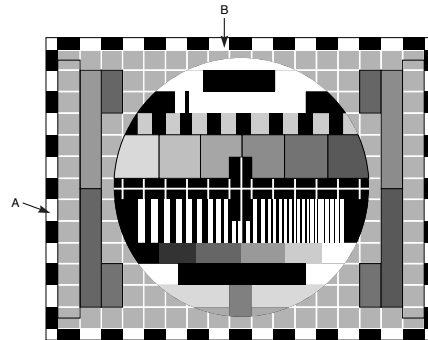

Fig1) H/V Position Adjjuement Screen
2. Remove the two retaining screws on the lamp cover with a screwdriver of "+" type and then lift off the lamp cover.(refer to fig.1)
< Fig. 1 >
- 4) Change the data with volume key on the remote control for adjustment so that the left/right of screen (A-fig1) to be symmetry and then adjust the outermost line of 5 channel (fixed size by circuit/optics) to be placed on the outermost of screen.
- 2) Change the data to symmetrized upper and down of screen (B-fig1) and then press the ADJ key on remote control to get out of adjustment mode.